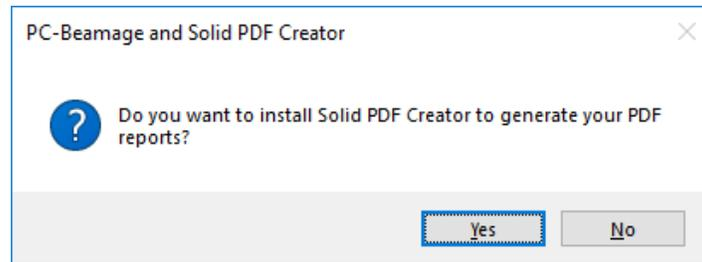

Figure C-1 Install SolidPDFCreator
- 3) Click *Yes* to accept the installation or click *No* to finish. See Figure C-1